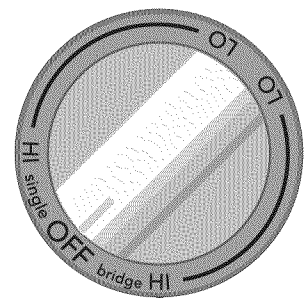

Figure 4
The cooktop is equipped with a "BRIDGE" surface induction element located at the left front and rear (See Figures 1 & 2) positions. The Bridge can be used when cooking with rectangular (like a griddle) or oval shaped cookware. The induction element will maintain an even temperature setting across both portions of the Bridge. If needed for normal cookware, the Bridge induction element can work like a single induction element without the Bridge (See Figure 5). The "single" mark on the knob indicates that only the front portion will heat (Fig. 3). The "bridge" mark on the knob indicates that both front and rear portions will heat (Fig. 4). You may switch from either setting at any time during cooking.
2. Push in and turn the control knob as shown in Figure 3 to heat the front portion of the Bridge element for normal shaped cookware or in Figure 4 for larger or rectangular shaped cookware. **Both left front and rear elements must be OFF before activating the bridge element.**